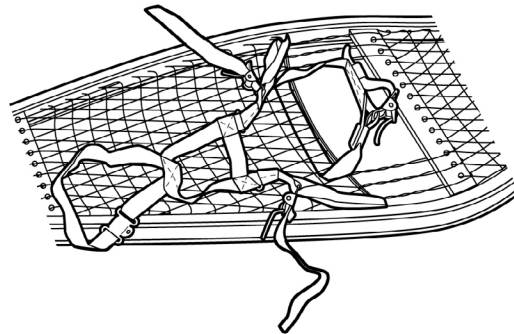

Figure 8. Snowshoe Binding.
**Snowshoe Binding (Replaced by Assault Snowshoe.)** The snowshoe binding (Figure 8) is intended for use with the magnesium trail snowshoe and will accommodate either the left or right boot.